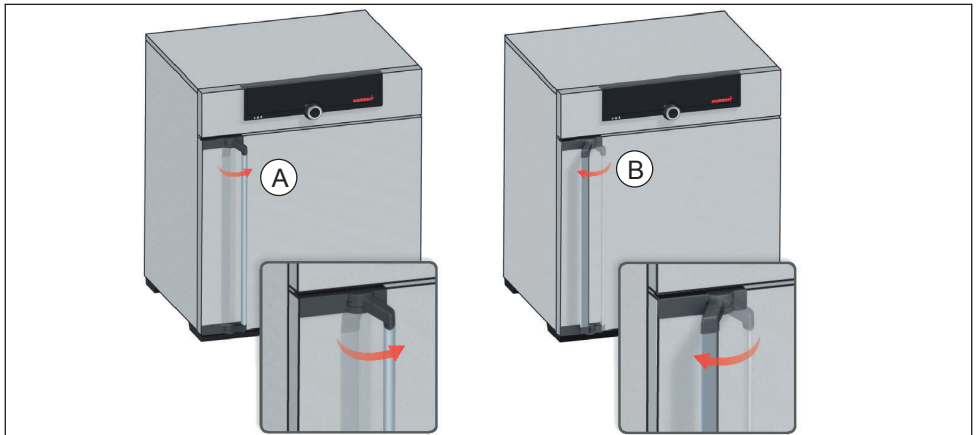

Fig. 12 Opening and closing the door
- ▶ To open the door, pull the door handle to the side (to the left or to the right, depending on the door variation, see Fig. 12, A) and open the door completely.
- ▶ To close the appliance, push the door closed and the door handle to the side (B).